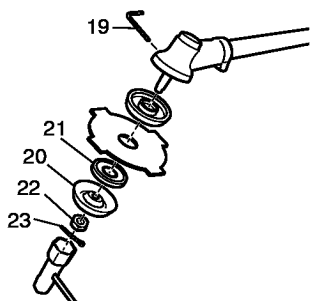

Fig. 18
**Installation of cutting blade (Fig. 18)**